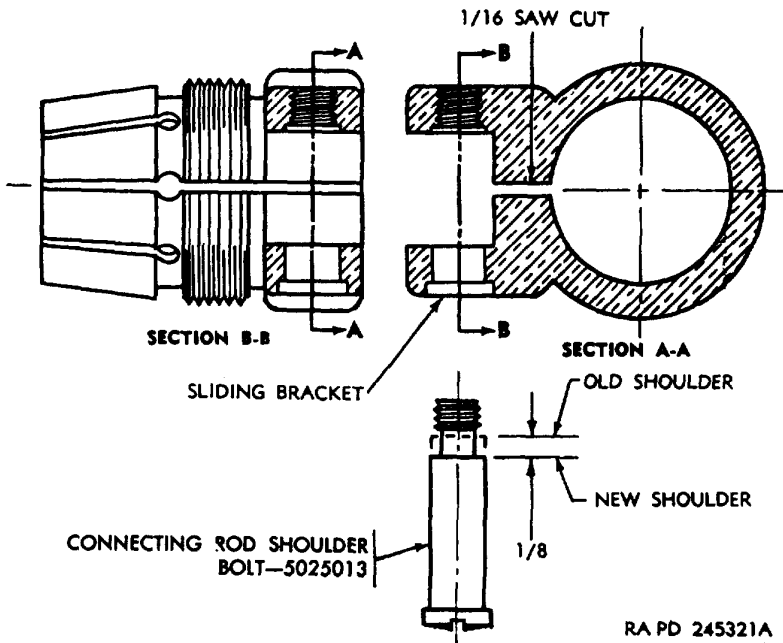

Figure 36. Sliding bracket modification.
- c. Increase clamping action of sliding bracket on left leg by extending the slots in the bracket to 1 inch long (fig. 36). Also, extend one slot up through the portion of the bracket which clamps around the connecting link and turn back the shoulder on the connecting rod shoulder bolt one-eighth of an inch.
- d. Replace pins (M), if damaged.